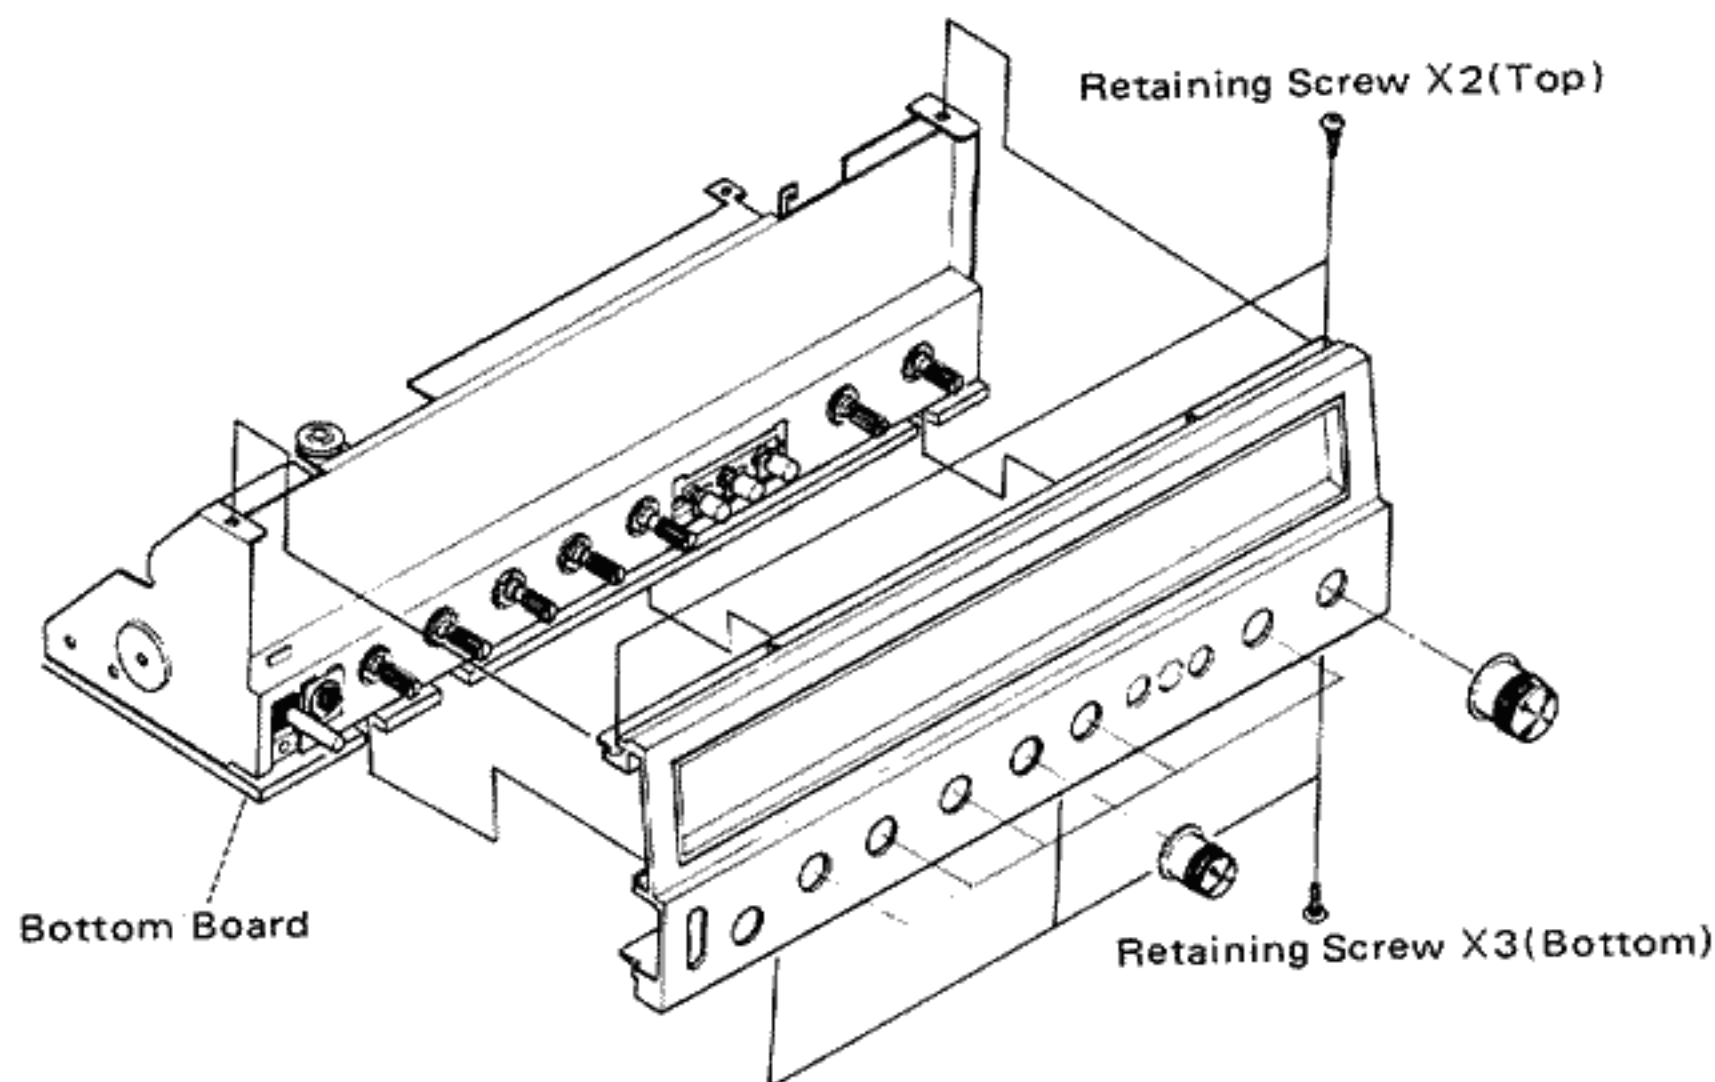

Fig. 3
3. Remove five screws as shown in Fig. 3, and remove front panel from chassis, with care to avoid damage.